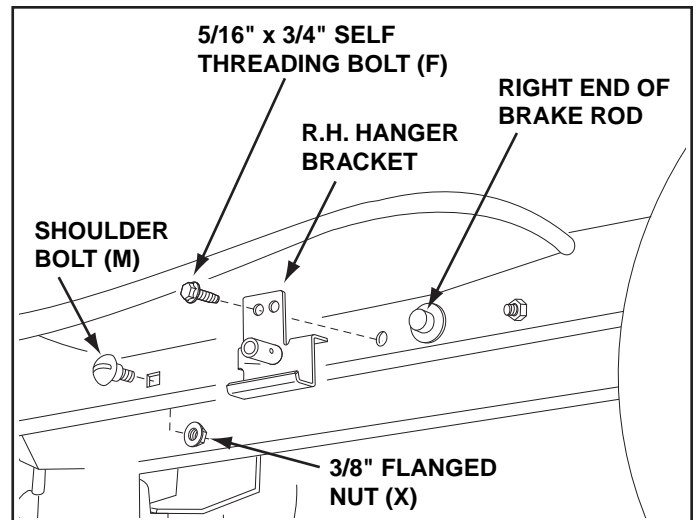

FIGURE 6 RIGHT SIDE VIEW
STEP 6: (SEE FIGURE 6)
- Attach the R.H. Hanger Bracket to the hole using a 5/16" x 3/4" self threading bolt (F).
- Install a round head shoulder bolt (M) into the hole that is 9-1/2" to the rear of the bolt you just installed. Secure it with a 3/8" flange nut (X) on the inside of the frame.